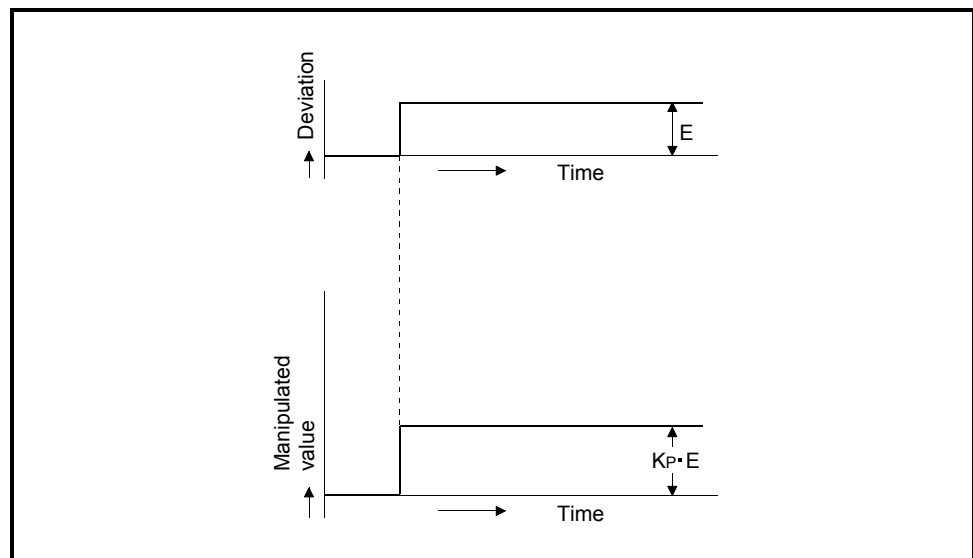

Fig. 1.9 Proportional action for step response
- (3) The proportional action for the step response when the error value is constant is shown in Figure 1.9.
- (4) The manipulation value changes between -5.0% and 105.0%. As the K_P increases, the manipulation value for the same error value becomes larger, and the corrective action becomes stronger.
- (5) The proportional action will generate an offset (remaining deflection).